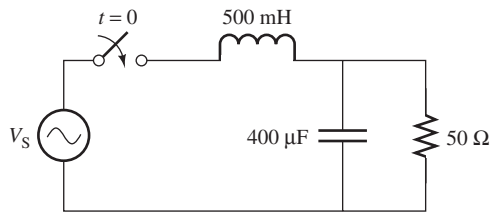

FIGURE P5.55 Circuit for Problem 5.55.
5.55 (H) The switch closes at $t = 0$ s. Given $v_S(t) = 20 \sin(200t)$, find the current flow across the resistor $i_R(t)$ for the circuit shown in Figure P5.55.